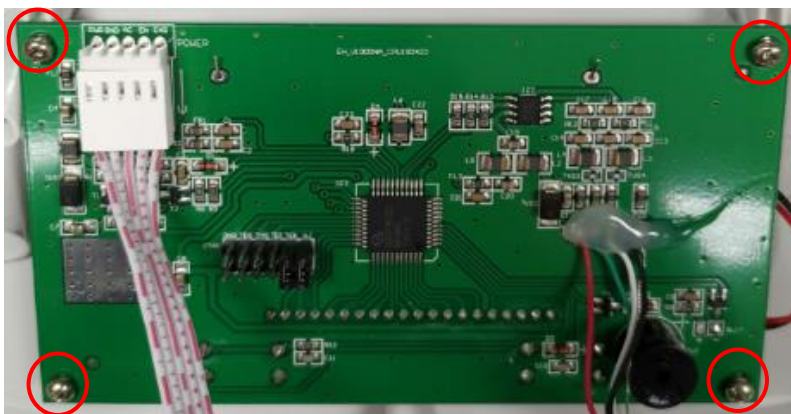
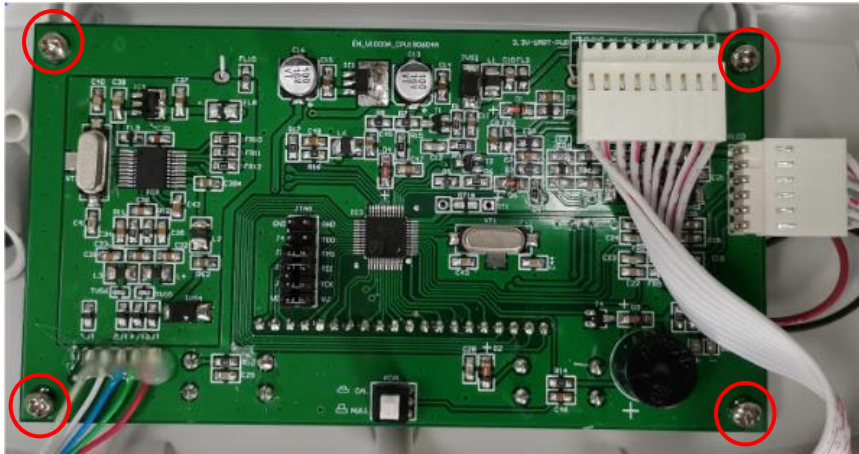

Figure 3-3 Main PCB: Non-approved Model.
Figure 3-4 Main PCB: Approved Model.
1. Disconnect the Cable connecting the Main PCB to the scale's power system, for the approved model, please disconnect the cable of rear display PCB (See Figure 3-3 and Figure 3-4.)
3. If either the Main PCB or the Load Cell is to be replaced, note the order of the wire colors, then carefully cut off the hot melt glue and unsolder the Load Cell Cable from the Main PCB at the four solder points on the PCB. (See Figure 3-3 and Figure 3-4.)
1. Carefully cut off the hot melt glue. Unsolder the cable leads connecting the Load Cell to the PCB. (See Figure 3-3 or Figure 3-4.)